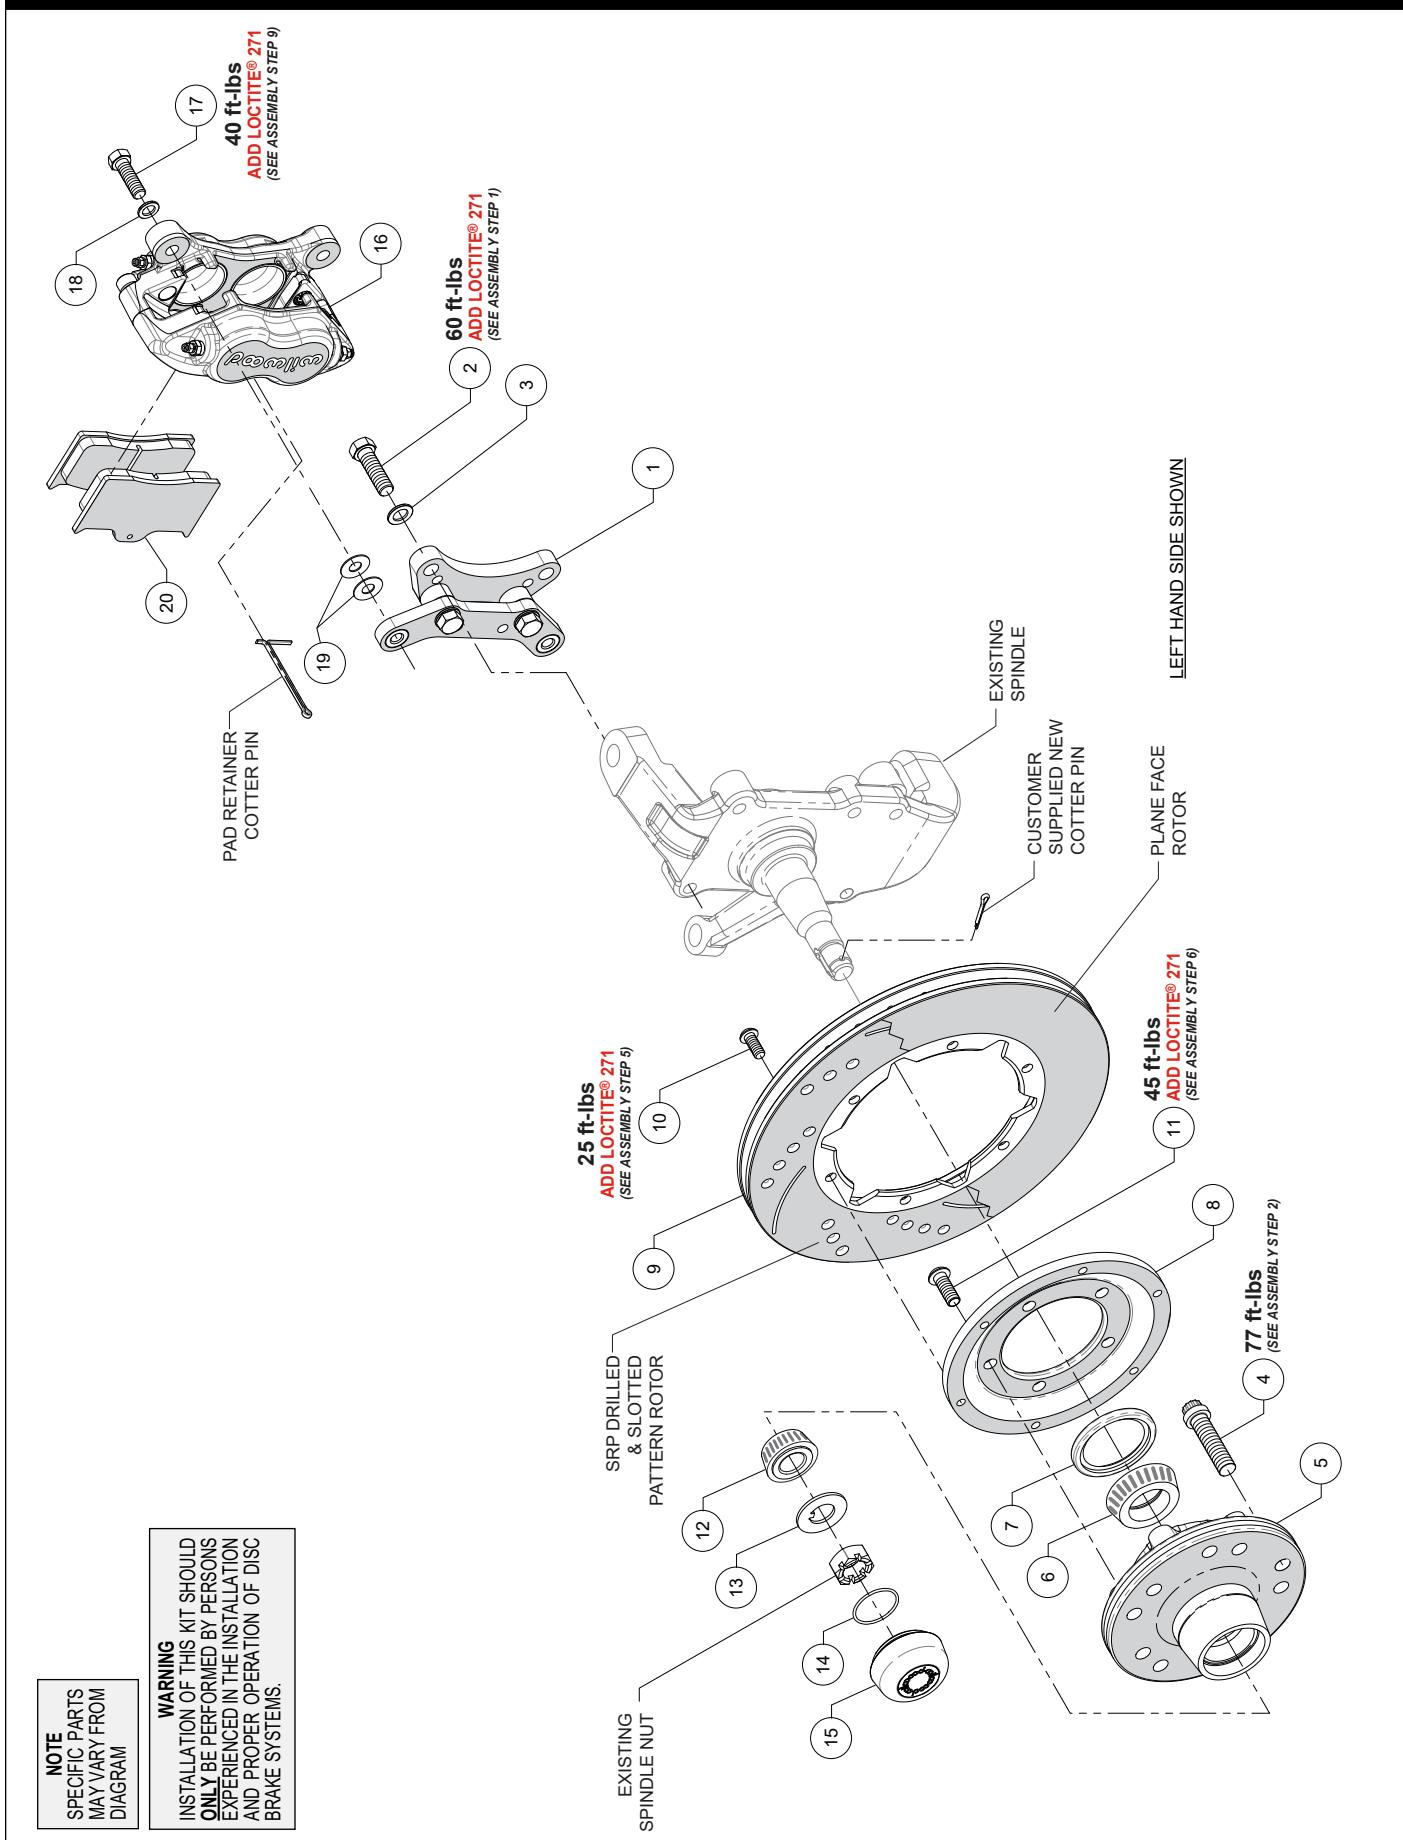
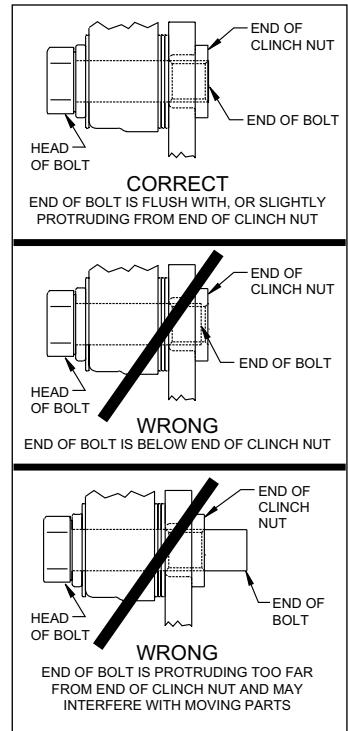

Figure 1. Typical Installation Configuration
Figure 2. Clinch Nut Engagement Diagram
• **NOTE:** Numbers in parenthesis refer to the parts list on the preceding page and Figure 1.
• **CAUTION:** All mounting bolts must fully engage clinch nuts. Be sure to check that all bolts are either flush or protruding through flanged side of clinch nut after shimming, Figure 2.
STEP 1 Align caliper mounting bracket (1) with the corresponding holes, on the backside of the spindle and attach using bolts (2) and washers (3), as shown in Figure 1 and Photo 1. Temporarily tighten the mounting bolts. Ensure that the flanged heads of the clinch nuts in the bracket are facing outboard, Photo 1. **NOTE:** The bracket must fit squarely against the mounting points on the spindle. Inspect for interference from casting irregularities, machining ridges, burrs, etc. Remove bolts (2) one at a time, apply red *Loctite® 271* to threads, torque to value shown in Figure 1.
STEP 2 Install wheel studs (4) into the hub (5), Figure 1, Photo 2.
NOTE: There are two five lug patterns in the hub (5 x 4.50 and 5 x 4.75). Ensure the correct hub stud pattern is being used to fit the wheel application. Torque studs to value shown in Figure 1.
STEP 3 Pack the large inner bearing cone (6) with high temperature disc brake bearing grease (available from your local auto parts store) and install into the backside of the hub (5).
STEP 4 Install the grease seal (7) by pressing into the backside of the hub (5), flush with the end of the hub, Figure 1.
STEP 5 Orient the rotor (9) and the rotor adapter (8) as shown in Figure 1 and Photo 3. Attach the rotor to the adapter using bolts (10). Apply red *Loctite® 271* to the bolt threads, and torque to value shown in Figure 1 using a criss cross pattern.
STEP 6 Mount the adapter/rotor assembly (8/9) to the hub (5) using bolts (11). Apply red *Loctite®* 271 to the bolt threads, and torque to value shown in Figure 1 using a criss-cross pattern.
STEP 9 **NOTE:** Please reference the caution statement at the beginning of the assembly instructions. Mount the caliper (16) onto the caliper mounting bracket (1) using bolts (17) and washers (18), as shown in Figure 1. Initially place two .035" thick shims (19) on each bolt between the caliper and the bracket. Temporarily tighten the mounting bolts and view the rotor (9) through the top opening of the caliper. The rotor should be centered in the caliper, Photo 5. If not, adjust by adding or subtracting shims between the bracket and the caliper. Always use the same amount of shims on each of the two mounting bolts. **NOTE:** The end of each bolt must be flush with or slightly protruding from the head of the clinch nut, as shown in Figure 2. If necessary place spare shims between washer (18) and caliper mounting ear to achieve the proper clinch nut engagement. Once the caliper alignment and clinch nut engagement are correct, remove the bolts (17) one at a time, apply red *Loctite®* 271 to bolt threads, and torque to value shown in Figure 1.
STEP 10 Install the disc brake pads (20) into the caliper, with the friction material facing the rotor (9) Photo 6, and secure in place using cotter pin, Photo 7.